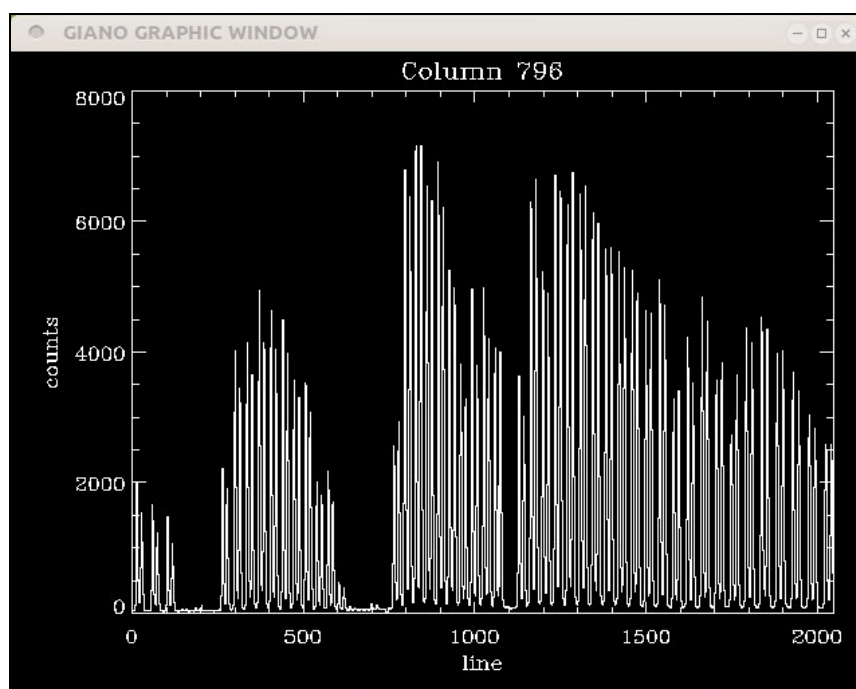

Figure 15. Column plot
**C** : The image column corresponding to the current cursor position will be plotted in the Graphic Window. The plotted column will be shown on the top of the graph (Figure 15).